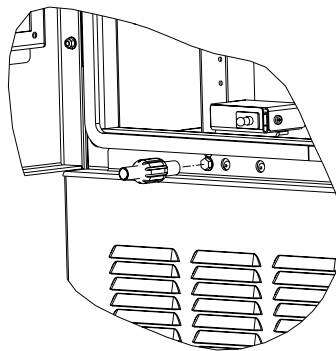

Fig. 8 : Removing Battery Chamber Base Panel
Step 2: If installed, use a 216-type tool to remove the OSP cable side base panel of the battery chamber (Fig. 8).